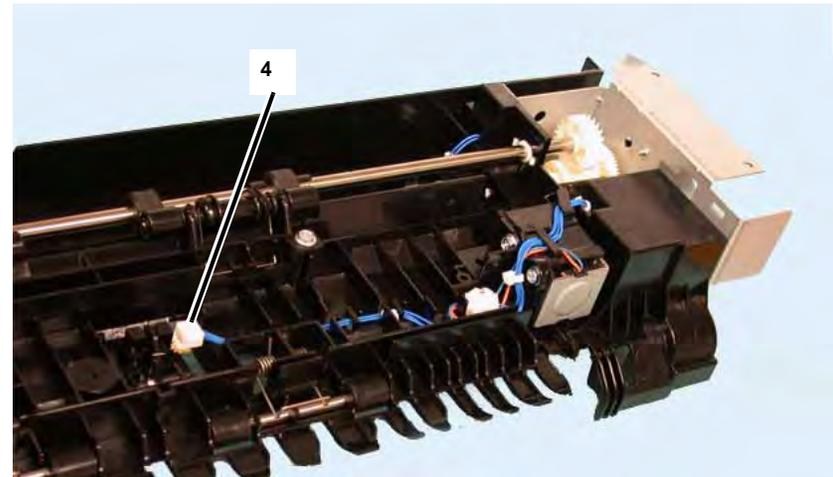

Figure 2 Exit 2 Sensor
4. Exit 2 Sensor removal, disconnect the PJ (1) and release the sensor from the assembly. (Figure 2).